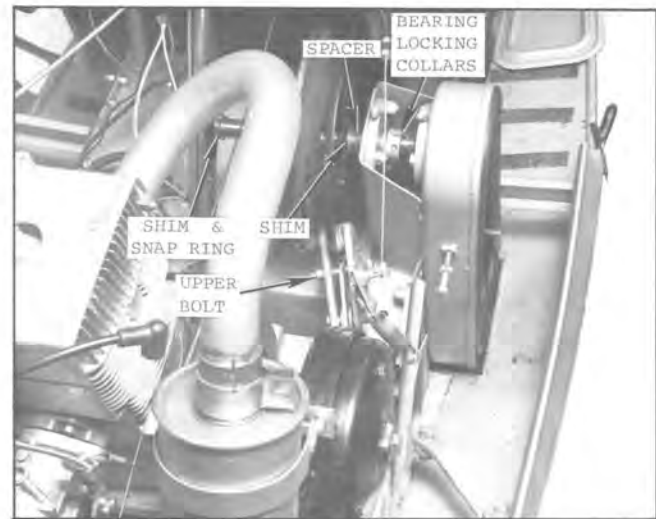

Fig. 67 — Locking Collars Removed From Bearings and Shaft Started From Driven Pulley
4. Loosen bearing locking collars, then tap shaft inward until upper sprocket can be easily removed. See Fig. 67.
After pulley alignment has been made (or corrected), tighten the locknut on the upper brake assembly bolt (shown in Fig. 67) until a clearance of .002"-.010" remains between the brake shoes (friction surfaces) and the driven pulley.